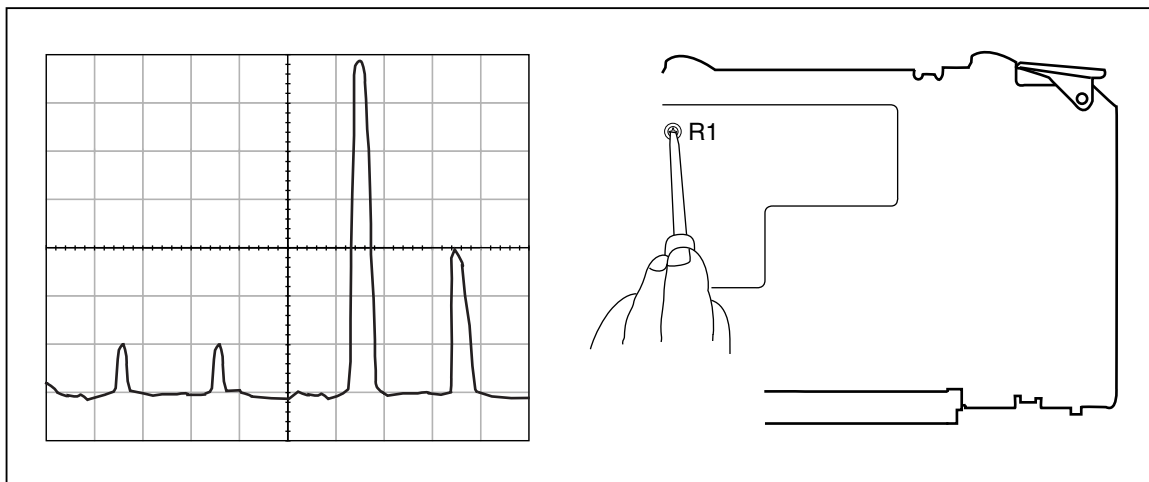

Figure 7-16. Levelled Sine Wave Balance Adjustment
3. Adjust the Spectrum Analyzer so that it shows one peak across its horizontal center line in the display. The far right of the peak is fixed at the far right of the center line, as shown in Figure 7-16.
The spectrum analyzer will show a spur at 153 MHz. See Figure 7-16 to identify the spur.